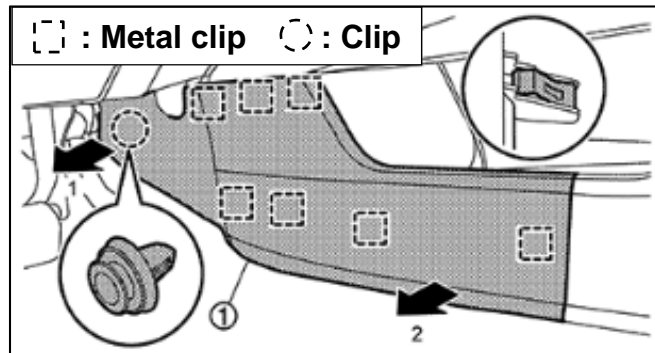
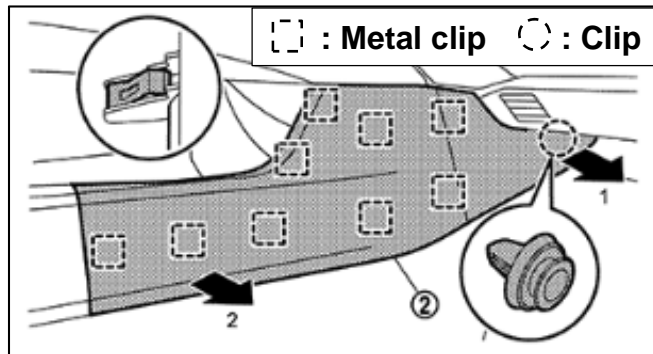

Figure 26
Figure 28
21. Disengage the one (1) center console fixing clip and the seven (7) metal clips, as indicated by the arrows shown in Figure 26 and Figure 28, and then remove the driver (LH) side and the passenger (RH) side instrument side panel.